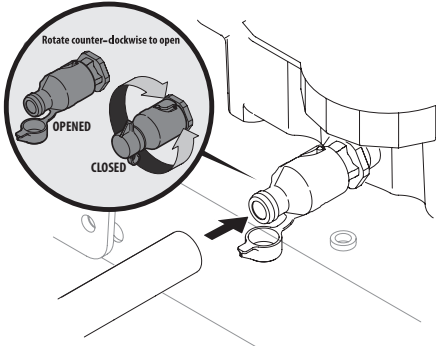

Figure 25
- Open the protective cap on the end of the oil drain valve to expose the drain port. See Figure 25.